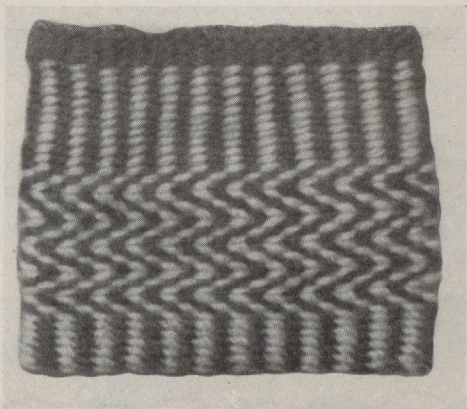

Fig. 6
1. *Upright Lines*—Fig. 6.
Since a warping form contains an even number of threads, weaving round and round it with the half twist weave brings the same colors of weft threads above one another, thus forming upright lines of alternating colors. This weave is shown in the upper and lower part of figure 6.
2. *Sloping Lines*—Fig. 6.
3. *Arrows*—Figs. 6 and 7.
4. *Herringbone*—Fig. 6.
1. *Woven Binding*—Figs. 11 and 12, also figs. 6, 8, 9 and 10.